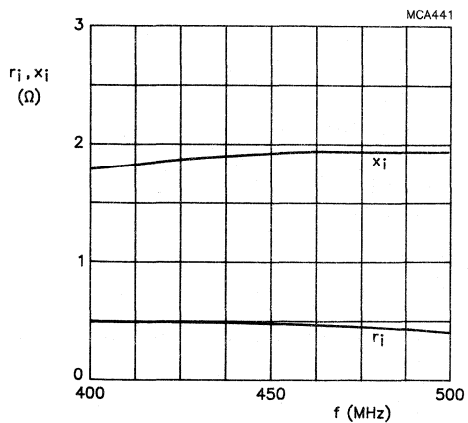

Fig.11 Input impedance as a function of frequency (series components); typical values.
**Conditions for Figs 11 to 13**